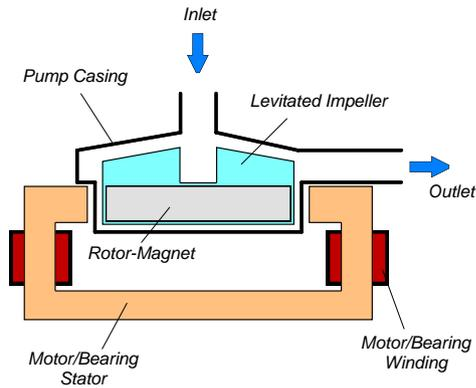
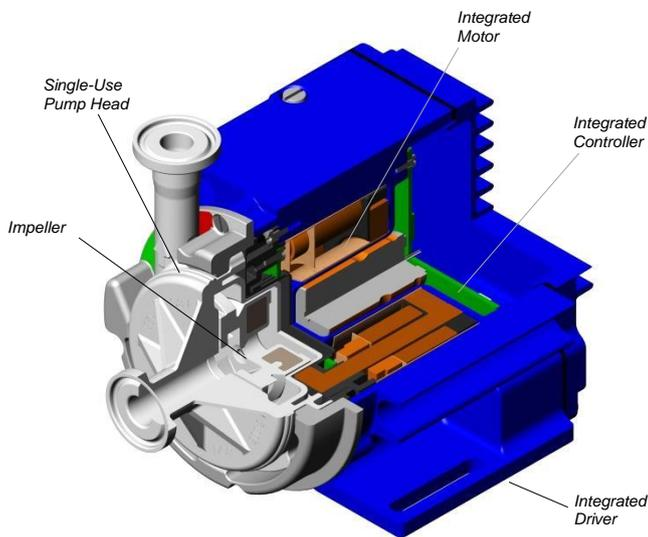

Figure 1: Schematic of the main elements of the MagLev centrifugal pump
Figure 2: Integrated MagLev pump driver with single-use pump head
Levitronix® has developed a revolutionary pump that has no bearings to wear out or seals to break. Based on the principles of magnetic levitation, the pump's impeller is suspended, contact-free, inside a sealed casing and is driven by the magnetic field of the motor (Figure 1). The impeller and casing are both fabricated from biocompatible (FDA, USP-VI, BSE/TSE and Animal free) gamma sterilizable polypropylene (PP) and together they make up the disposable pump head. A simple and intuitive exchange of the single use pump head is achieved with a bayonet socket type mounting procedure (see Figure 6). Flow rate or pressure is precisely controlled by electronically regulating the rotor speed, which eliminates any pulsation. With the lack of mechanical bearings plus the self-contained pump head design, the risk of contamination is drastically reduced. The absence of narrow gaps between the impeller and pump casing, plus the low-shear pump design allows the gentle pumping of sensitive liquids. The pump housing is fabricated with Triclamp fittings and can be easily inserted and removed with an intuitive bayonet socket. The controller and the motor are integrated into the driver housing (see Figure 2), hence cabling effort is reduced.